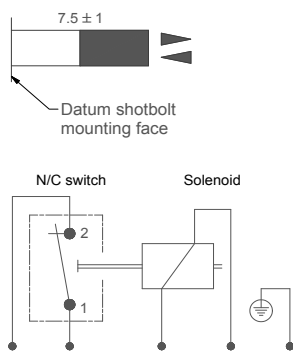

Fig. 5 N/C positive break switch
- Positive break (forced contact) switch Max 250VAC 10A – see Fig 5.